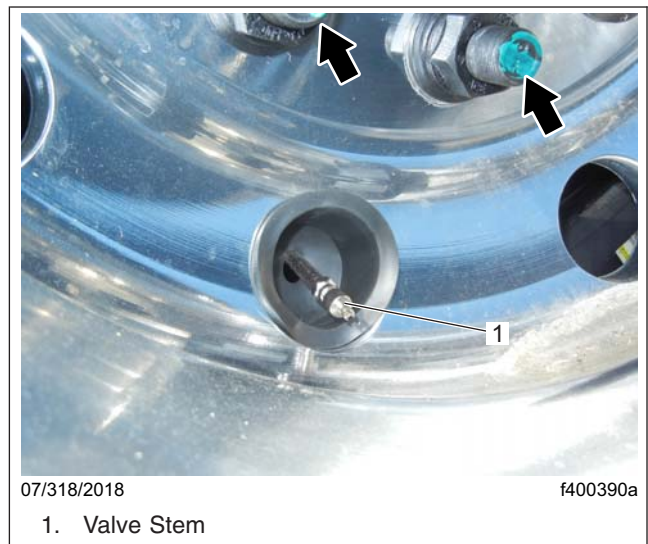

Fig. 12, Marking Wheel Studs
- Mark the two studs closest to the valve stem as shown in **Fig. 12**, for proper wheel assembly location when reinstalling the wheel assembly on the hub.